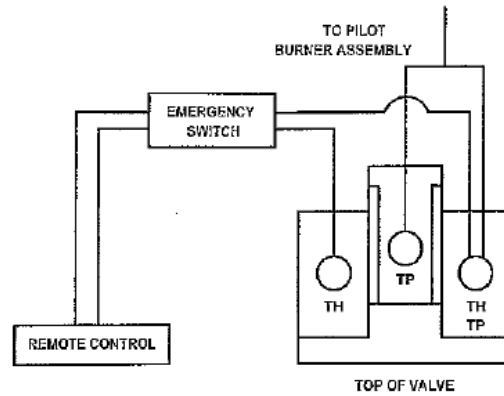

Figure 5
- 3) If optional Emergency Switch used, connect leads from the Remote Receiver to the millivolt valve as shown in Figure 5.